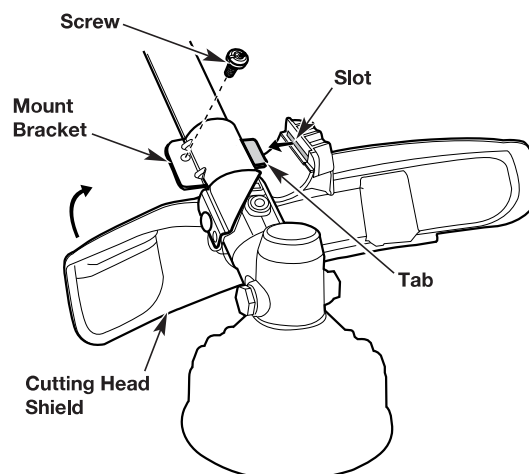

Fig. 1
2. Insert the tab on the mount bracket into the slot in the cutting head shield (Fig. 1).